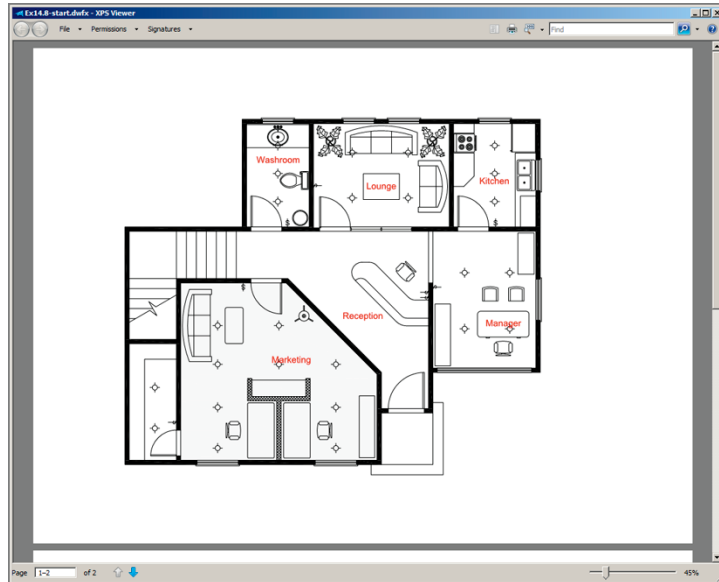

FIGURE 14.24 DWFx drawing displayed in Internet Explorer
3. Double-click the Ex14.8-start.dwf file on your hard drive. After a few moments, the vector drawing appears in the XPS Viewer, a program that is part of the Windows operating system. Drag the slider at the bottom of the interface to the left at the bottom of the interface to zoom out (see Figure 14.24).